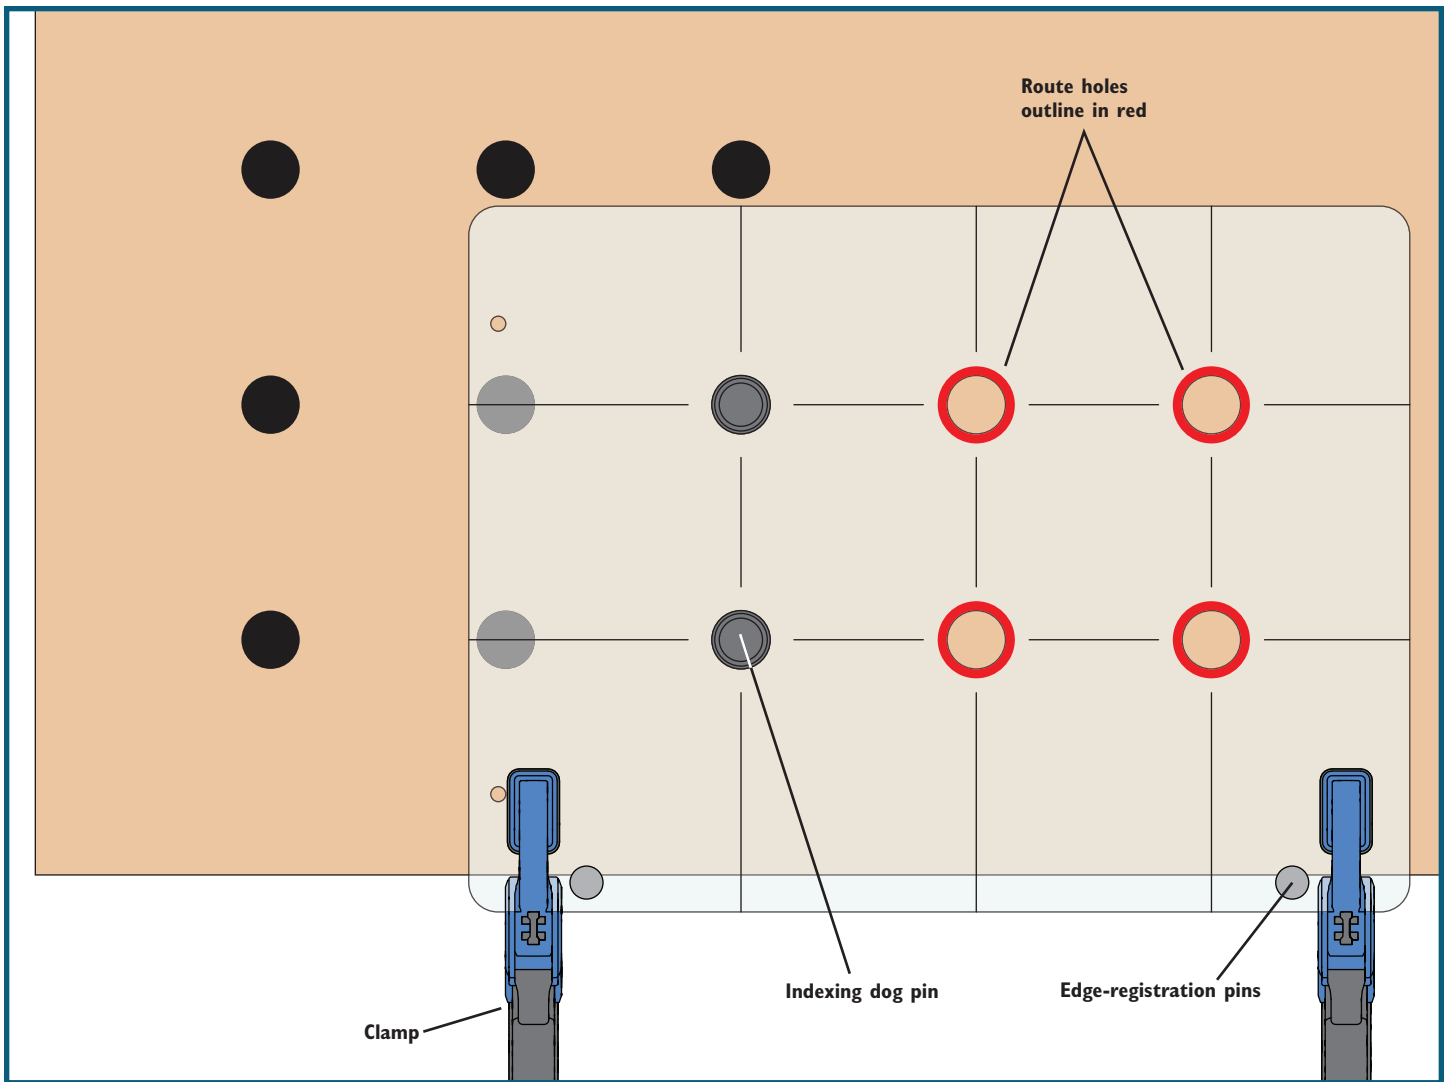

Fig. 3
18. Press two indexing dog pins tightly into the overlapping holes to perfectly position the template, and then secure the template further with clamps. **Fig. 3.**